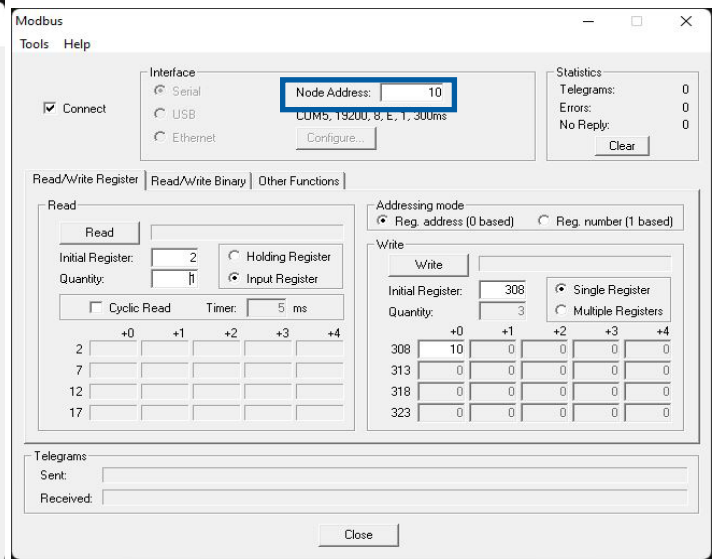

Figure 20 - Check communication
- Step 3: After write-in the new address, the old one is disable. Input the new address in Node, and check communication (Figure 20).